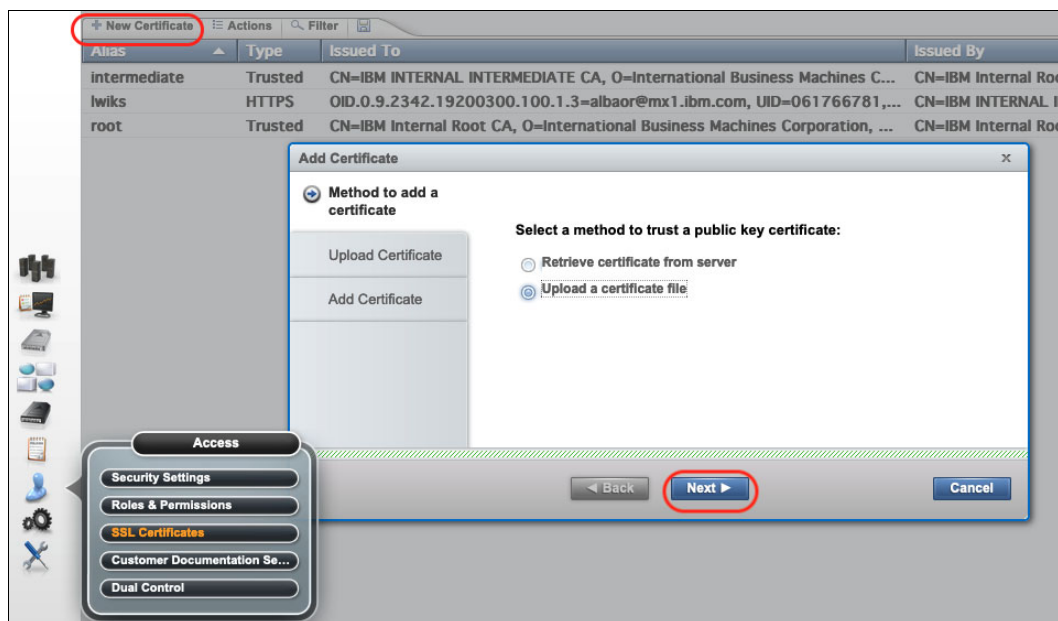

Figure J-5 Open the “Add Certificate” dialog
2. Click **New Certificate**, which opens the Add Certificate window. In the Method to add a certificate tab, select **Upload a certificate file**, as shown in Figure J-5. Click **Next**.